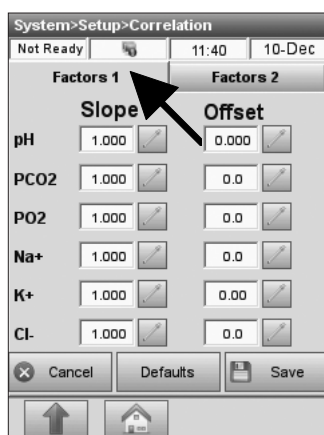

Fig. 3-41 Correlation Factors 1
3. Select the numbers you want to change by pressing  (Fig. 3-41). Enter the new numbers.